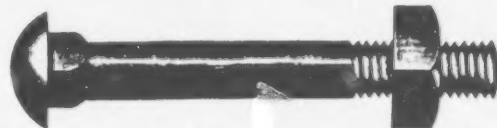

Figure 17-20. Standard Carriage Bolts
m) Carriage bolts (Figure 17-20) have an NC thread and a square nut unless ordered otherwise.